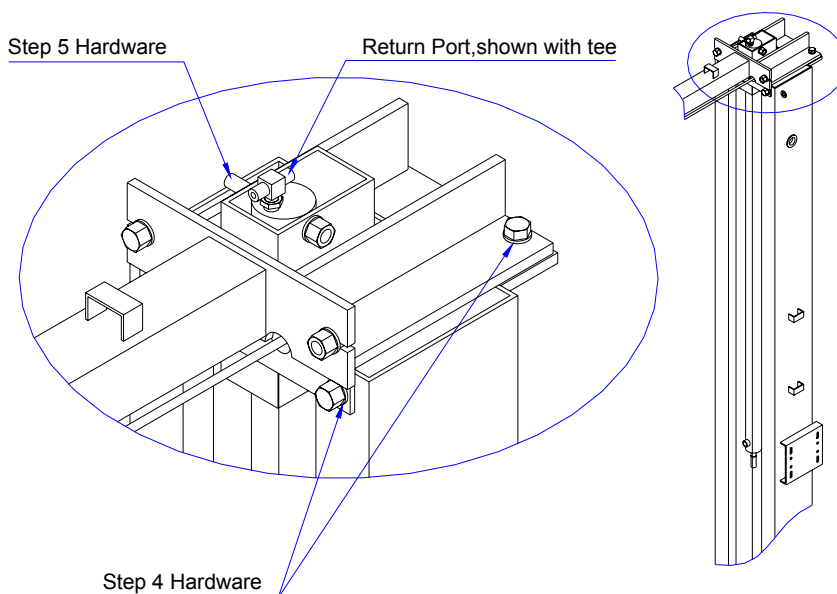

Fig. 4
4. **Attach the cylinder mount or uprights. Attach the cylinder mounts or uprights to the legs using four 1/2" X 1-3/4" bolts, washers and nuts as shown in figure 4.**
- D. Install the cylinders to the uprights or cylinder mounts with **1/2" x 4-1/2" Grade 8 bolts, cylinder bushings (spacers), washers, and nyloc nuts, figure 4.** The port near the rod end of the cylinders should be positioned pointing to the leg's open side. High Rise cylinders must be attached to the alternate hole near the top of the upright.